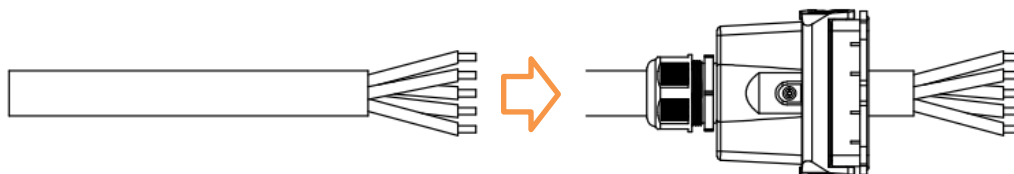

Fig. 16
1. Pass the cable with appropriate length through the waterproof terminal cover. The ground and neutral wire are longer than the live wire. Strip the insulating layer of the cable by about 10mm (Fig. 16)